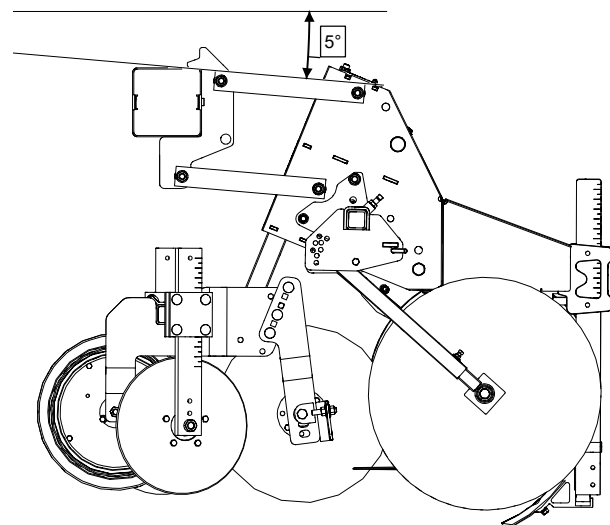

Figure 11 Operating Position
4. Lower cultivator so that sweeps and gauge or guide wheels rest on the ground. Position toolbar in the operating position so that cultivator linkage is nearly horizontal. See Figure 11.